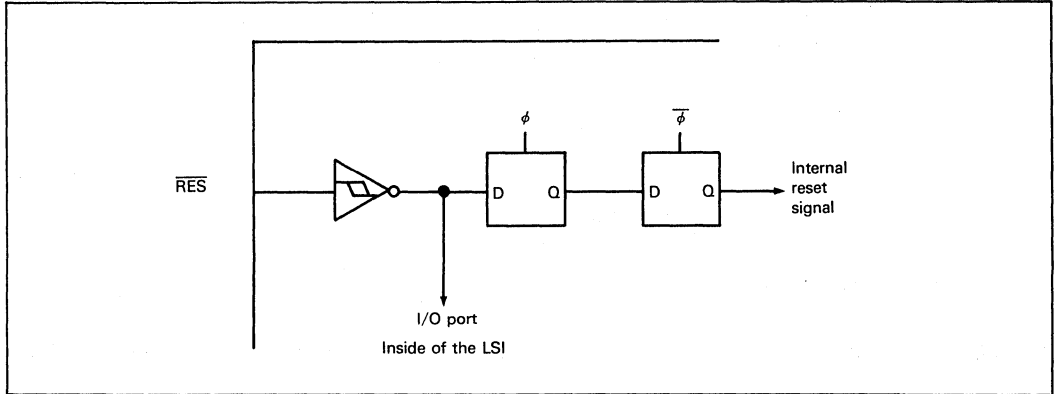

Figure III-18 Reset Circuit
**Answer:** The I/O ports are in the reset state immediately after a power-on reset because it is directly controlled by the  $\overline{RES}$  pin. However, at this time, the contents of the data register of each port are undefined (figure III-18).